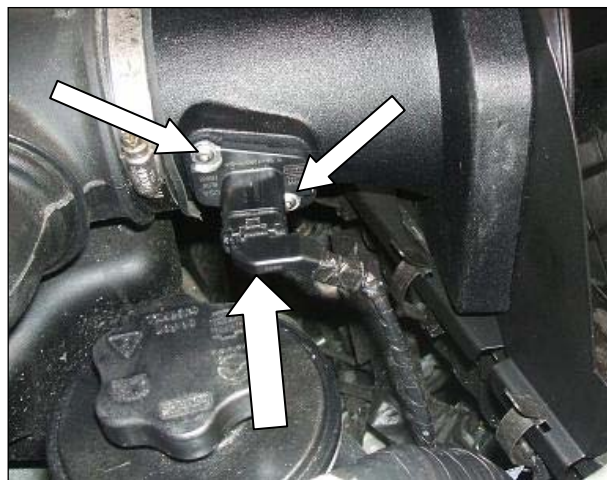

Figure 6
11. Reinstall the MAF Sensor into the slot on the MAF Tube using two (2) 8-32 Screws supplied in the kit. **Do Not reuse the factory screws.**
12. Reconnect the Mass Air Flow Sensor connector. Ensure it snaps into place. Press in the red tab to lock the connector release tab. Refer to Figure 6 for Steps 11 & 12.